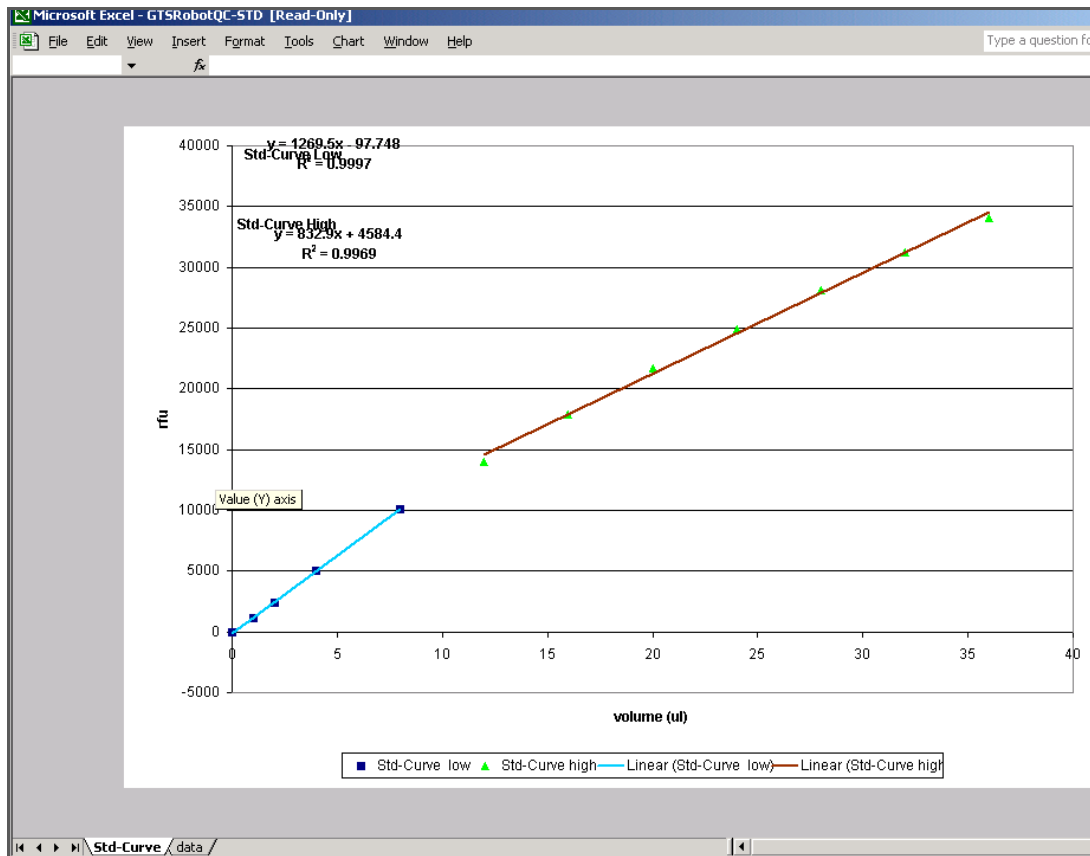

Figure 86 Sample GTSROBOTQC-STD.xls File
8. Before clicking **Yes**, review the data (Figure 86).